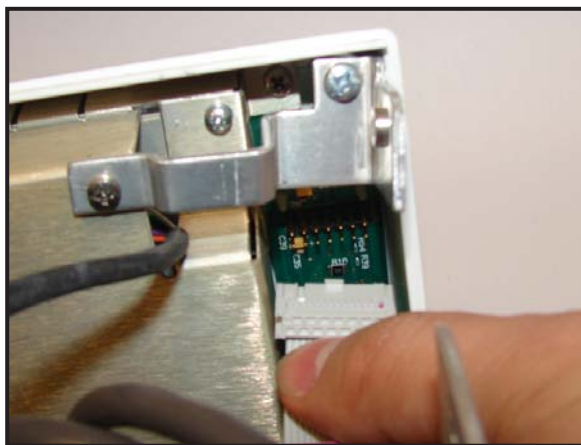

Figure 6-17
9. Disconnect the Keypad-to-Volume ribbon cable from its connector on volume keypad board (See Figure 6-17).